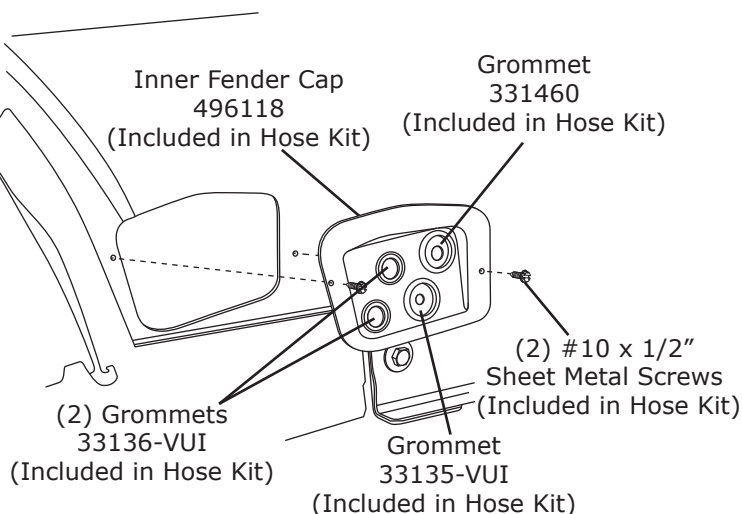

Figure 10a
2. Install (4) grommets in inner fender cap (See Figure 10a, below).
3. Install inner fender cap in wheel well side using (2) #10 x 1/2" sheet metal screws as shown in Figure 10a, below.